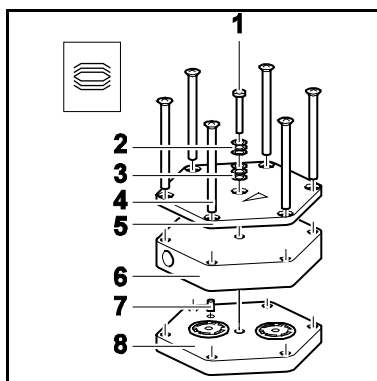

Fig. 24: Refitting pump head
1. For two-headed pumps: On the pneumatic head connection (3), loosen the union nuts (2) by hand. Then slightly loosen the angle-fitting (1) in the pump head (4) by turning it anticlockwise, so that the connecting tube can be pulled out.
2. Mark the position of top plate (fig. 24/5), head plate (fig. 24/6), intermediate plate (fig. 24/8) and adapter relatively to each other by a drawing line (for two-headed pumps: at both pump heads) with a felt-tip pen (1). This helps to avoid incorrect assembly later.
1. Completely unscrew the screw(s) (1) in the center of the top plate (2) and take off the disk springs (Fig. 24/2 and 3). With a two-headed pump: Unscrew the screw(s) and take off the disk springs from just one pump head.
2. Remove top plate (2) and head plate (3) from intermediate plate (5).
2. Place the intermediate plate (8) with valve plates/sealings on the adapter in accordance with the felt-tip pen marking.
3. Place the head plate (6) on the intermediate plate (8) in the position indicated by the guide pin (7).
4. Place the top plate (5) on the head plate (6) in accordance with the felt-tip pen marking.
5. Gently tighten screws (4) in diagonal order (tightening torque: N810: 6 Nm; tightening torque: N 820: 7 Nm; tightening torque N 840/ N 842: 8 Nm).
6. Insert screw(s) (1) with disk springs (2, 3) in the center of the top plate (5). In doing so, make sure that the disk springs are arranged properly (see fig. 24).
7. Screw in the screw/screws (1) in the centre of the pump top plate (5) until the bottom of the screw head is flush with the top plate; then screw one final half turn to tighten. (tightening torque: N810: 20 Ncm; tightening torque: N 820/ N 840/ N 842: 25 Ncm).